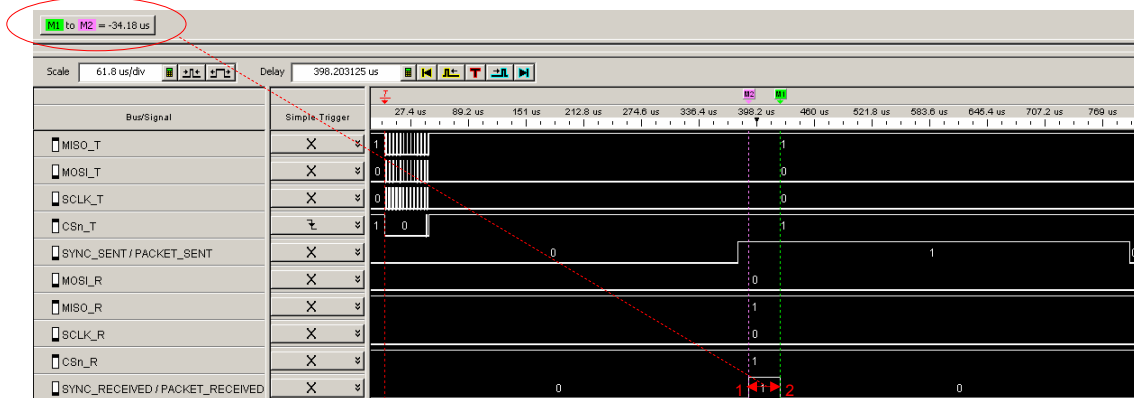

Figure 6. Maximum Length Filtering (IOCFGx = 0x06)
If using maximum length filtering (PKTCTRL0.LENGTH_CONFIG = 1 and PKTLEN set to the maximum packet length the radio should accept) the GDOx signal will behave the same way as described in 3.2.3. However, the GDOx pin will be de-asserted (2) after 32 us (and not 64 us) since only the length byte has to be received before the filtering can take place. After the GDOx signal has been de-asserted, the radio will also in this case go back to RX state, regardless of the MCSM1.RXOFF_MODE setting. In Figure 6 ((1) is sync received), the transmitted packet is the same as the one described in 3.2.3. On the receiver, PKTLEN = 0x09 (with PKTLEN ≥ 0x0A, the packet would be received properly).